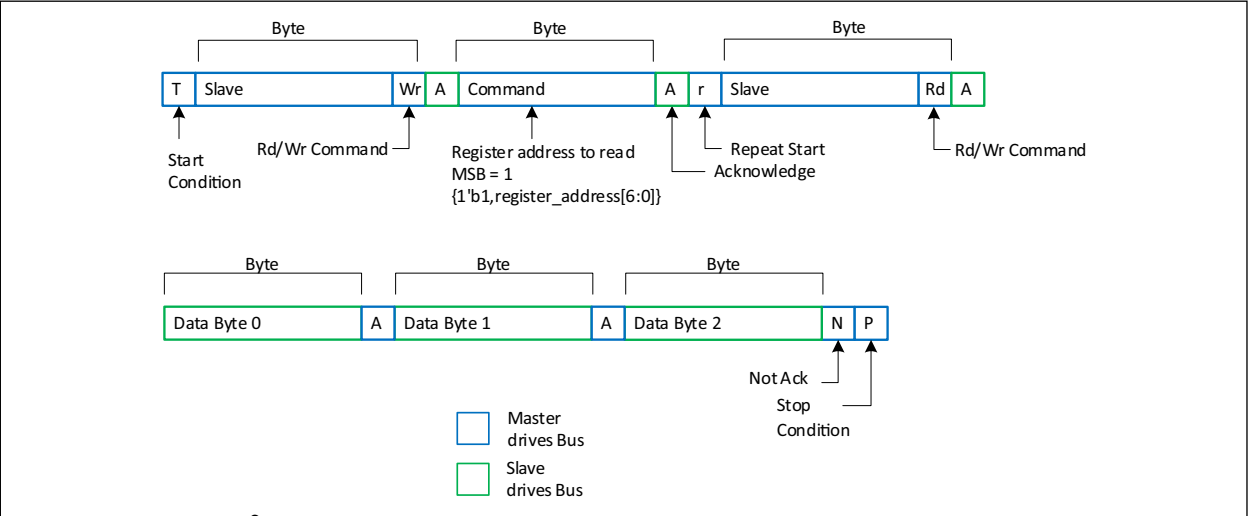

FIGURE 5-6: I2C Bus Burst Read.
**Burst Read.** Figure 5-6 illustrates the Burst Read. The I2C server acknowledges after each received byte and finally sends a Not Acknowledge (NACK) followed with Stop Condition.